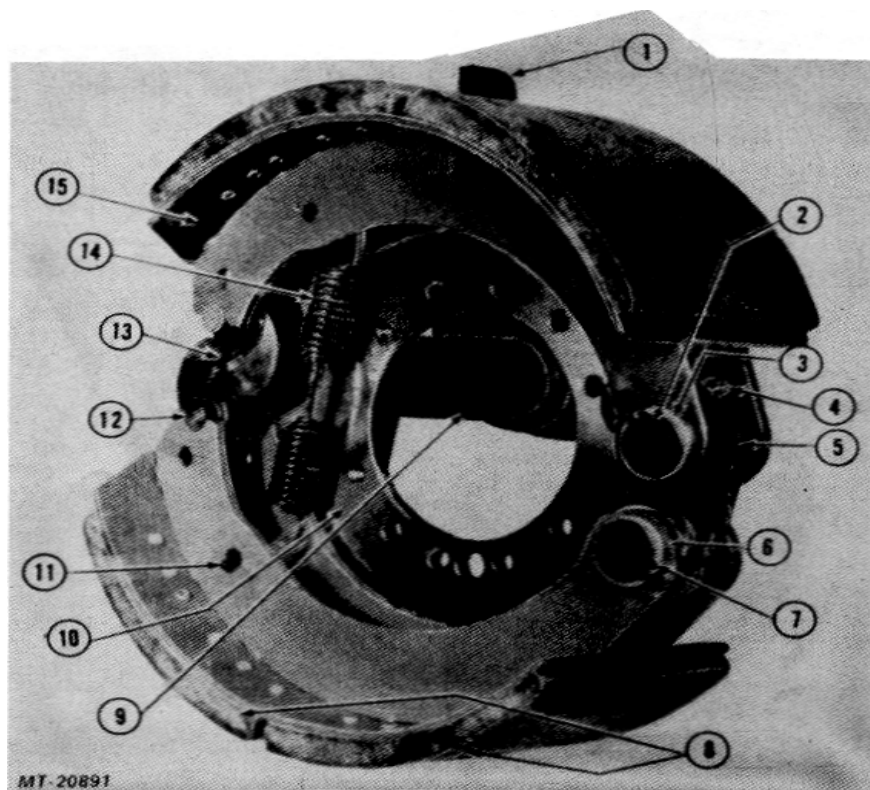

Fig. 8 Typical Brake Group with Removable Anchor Pins
2. Rockwell "P" Series brake groups (Fig. 8) have removable anchor pins which utilize brake shoes with closed anchor pin openings (holes).
Rockwell "P" Series Brake Group (Fig. 8)